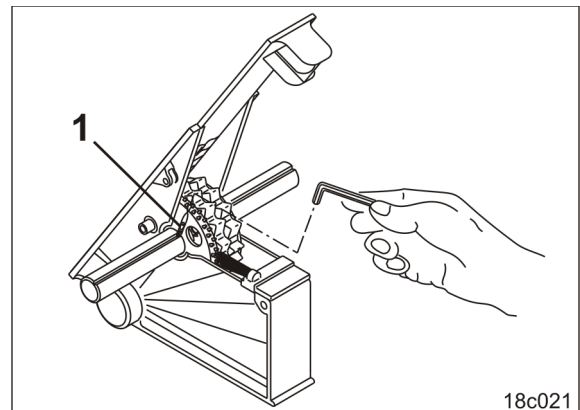

Fig. 247
3. Unscrew the hexagon socket screws (Fig. 247/1) on the new tramline seed metering wheels until the new tramline seed metering wheels can turn freely on the seeding shaft.